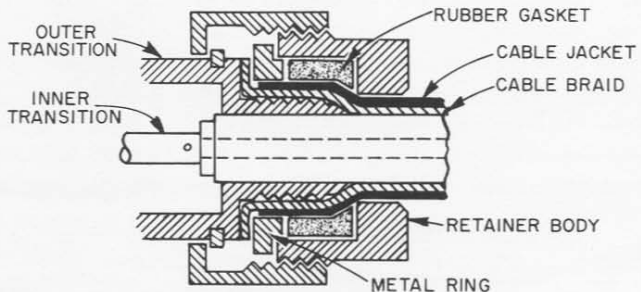

Figure 2. Braid and jacket-retention system shown before coupling ring is tightened.
Three important requirements affect the design of the mechanical attachment for the cable braid and jacket: (1) the electrical connection between the braid and the connector must not produce discontinuities; (2) the assembly must stand up under typical use by resisting twisting and/or pulling forces; and (3) the cable must not be compressed. These requirements are met by the attachment method shown in Figure 2. The braid is captured by a combination of butt and radial forces. The outer transition has a diamond-pattern knurl similar to that used on the GR874-series connectors. The radial forces come into play as the rubber gasket presses both the jacket and the braid against the knurled portion of the outer transition